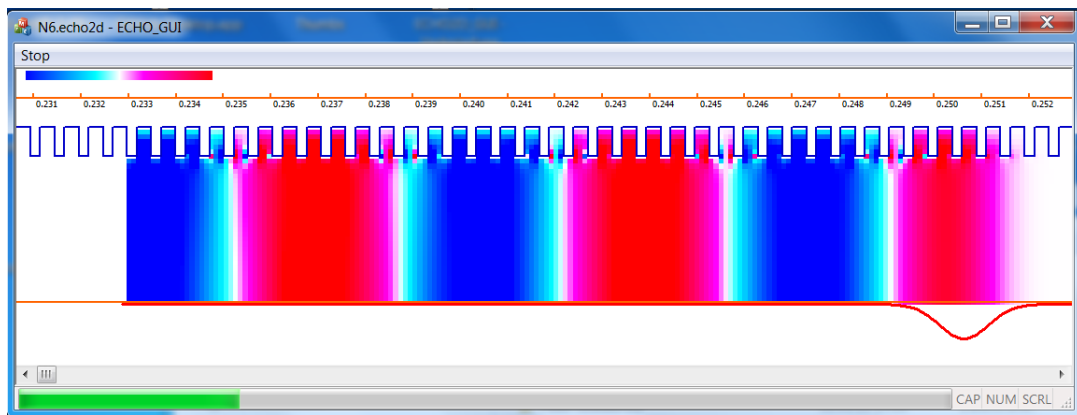

Figure 4.10: Geometry of the dechirper.
The absorber has geometry shown in Fig. 4.10 with *Width* = 0.05 m defined in file **input_in.txt**. The bunch flies in ZY symmetry plane ($x_0 = x = 0$) and we calculate only odd modes *Modes* = 1 3 5 7 9 11 13 15 17 19 21 23 25 27 29. In order to calculate the longitudinal and quadrupole wakes we use *SymmetryCondition* = *magn* and proceed as follows:
- Go to menu "File/Open" and navigate to directory **Examples/ N6_PohangDechirper/ ECHO2D**. Open the input file **N6.echo2d**. You should see the geometry shown in Fig. 4.10.
- Go to menu "File/Open" and navigate to directory **Examples/N6_PohangDechirper/ ECHO2D**. Open the input file **N6.echo2d**. You should see the geometry shown in Fig. 4.10.